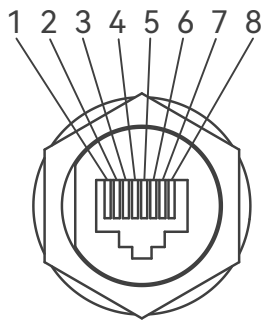

Figure5.14
1. (Optional) The RS485 cable is prepared by user. It is recommended to strip the RS485 cable and Ethernet wire insulation. Insert the stripped Ethernet wires in correct order into the RJ45 plug (please refer to fig 5.14 and table 5.5 for order) and crimp it with a crimper.